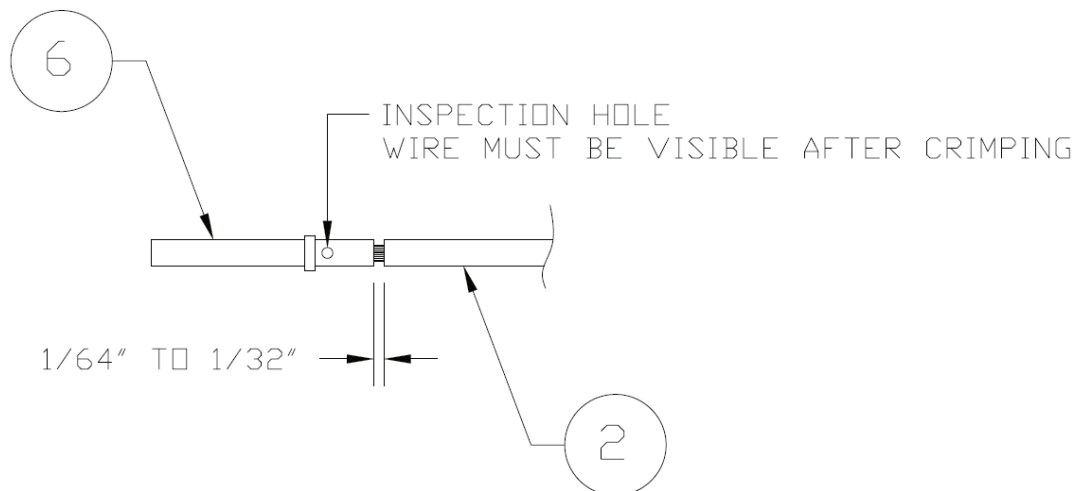

Figure B-7 Insulation/Contact Clearance
- Strip back approximately 0.17 inches of insulation from each wire of the shielded cable (item 2) and crimp a contact (item 6) to each conductor. It is the responsibility of the installer to determine the proper length of insulation to be removed. Wire must be visible in the inspection hole after crimping and the insulation must be 1/64 – 1/32 inches from the end of the contact as shown in Figure B-7.
2. Strip back approximately 0.17 inches of insulation and crimp a contact (item 6) to the 4" length of 22 AWG insulated wire. It is the responsibility of the installer to determine the proper length of insulation to be removed. Wire must be visible in the inspection hole after crimping and the insulation must be $1/64 - 1/32$ inches from the end of the contact as shown in Figure B-7.